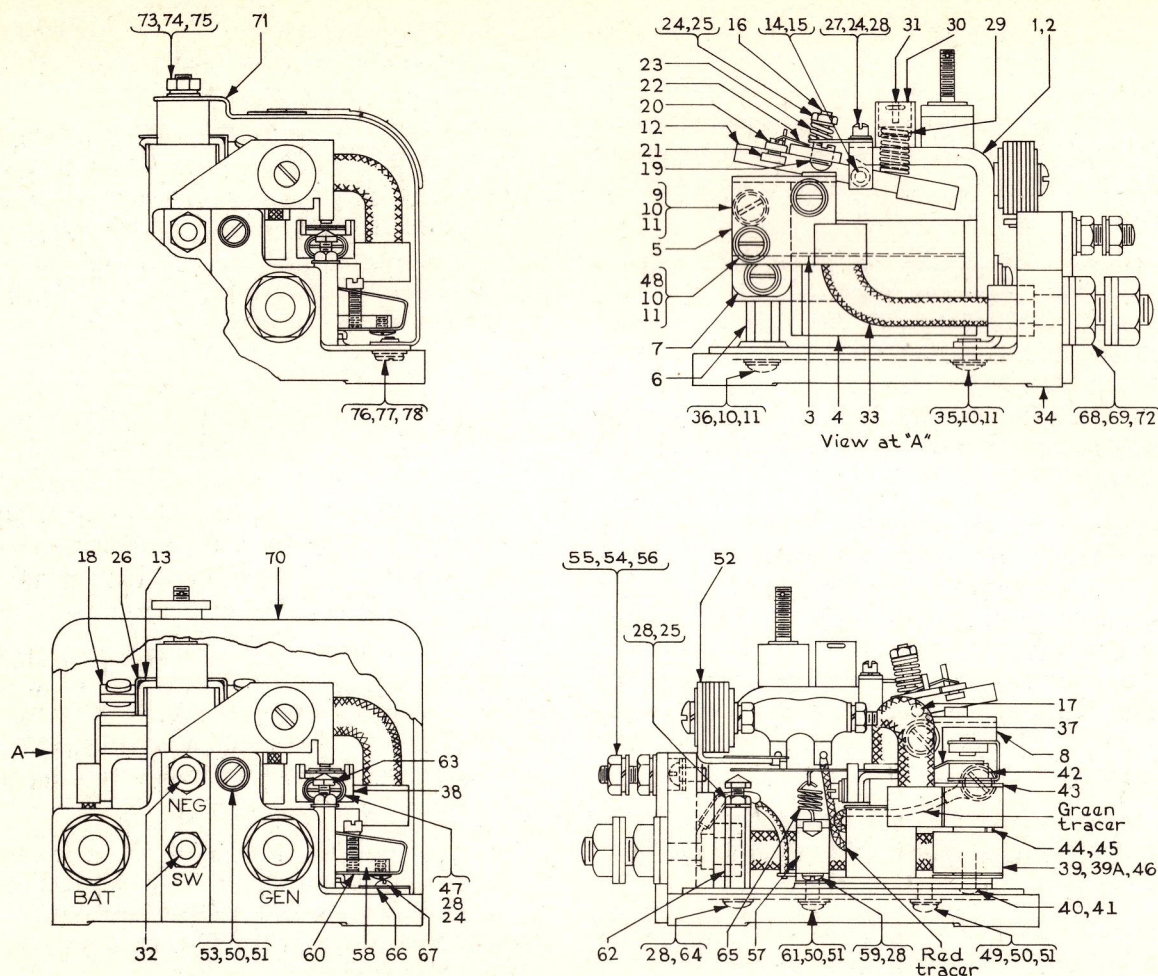

Fig. 7. Assembly of relays, Model No. 3GTR72A1 and 3GTR72A1A
If the relay should fail to function correctly, it should be tested as outlined in the following paragraphs. Reference numbers, in parentheses, refer to Fig. 7 and the Parts List,
Whenever the relay is to be disassembled, the procedure outlined in the next paragraphs should be followed. The reference numbers, in parentheses, refer to reference arrows in Fig. 7, and also the Parts List.
Whenever the relay has been disassembled, re-assembly should be made as described in the following paragraphs. Reference numbers in parentheses refer to Fig. 7 and the Parts List.
1. Place the coil assembly (4) on the core assembly (1 or 2) with spacer (3) next to the core and on the top, as indicated in Fig. 7. The leads on the coil should be toward the support end of the core and on the right (looking from the support end). Press the core all the way in.
2. Fasten the pole piece (5) to the top end of the core (which extends beyond the coil) by means of the stud (6). Do not tighten this stud. The two tapped holes in the pole piece should be on the side farther from the coil.
3. Fasten the contact supports (7, 8) on the pole piece (5) with screws (9), washers (10), and lock washers (11). Contact supports should be located with a key that fits in the slot on the pole piece. Simultaneously tighten the screws (9) and the stud (6) holding the pole piece in order to obtain proper alignment.
4. Fasten the bearing (13), pin (14), and washers (15) on the armature and pins (12). Add the adjusting screw (16) and tighten setscrew (17) so that the shoulder on the adjusting screw is flush with the armature. Apply thermoplastic cement G-E No. 2142 to the setscrew after tightening.
5. Add the main contact bar (18) to the armature (12), complete with main contacts (19); also the arcing contact bar (20) with arcing contacts (21). Fasten the stop (22) so that its tip rests on the arcing contact bar (20) at the pin. Add the spring (23), washer (24), and nut (25).
6. Fasten the armature (12) with the parts added, to the previous assembly with the stop (26), screws (27), washers (24), and lock washers (28). Tighten the screws, lining up the armature with the pole piece. Drop the spring (29) into the spring-holder on the core assembly (1 or 2) and add the adjusting screw (30). Insert the cotter pin (31) but do not fasten until after adjustment.